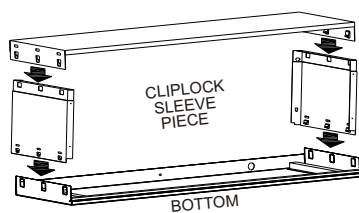

Fig 1
- a) Unpack all parts and accessories, referring to Fig 1.